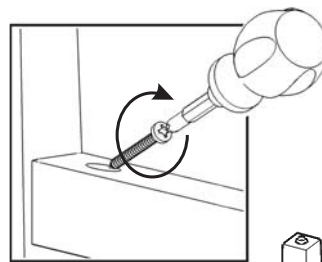

Figure 4
Attach Stretcher (C) to unit with Wood Screws. (See Figure 4)